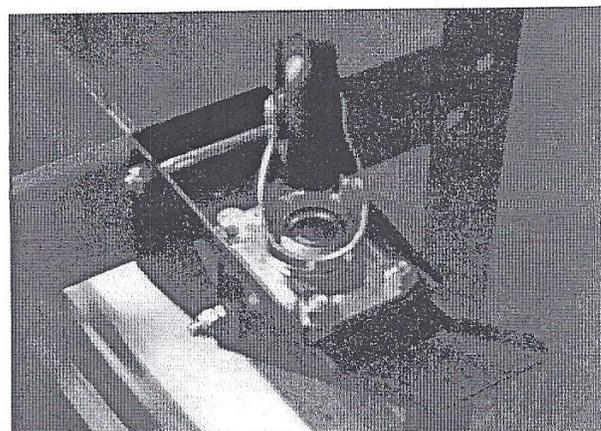

Figure 20. Locking caster
- Mount the assembly to either center bottom brace of the RouterShop using (4) 1/4"-20 x 1/2" hex bolts and nuts. Securely tighten the bolts (Figure 20).